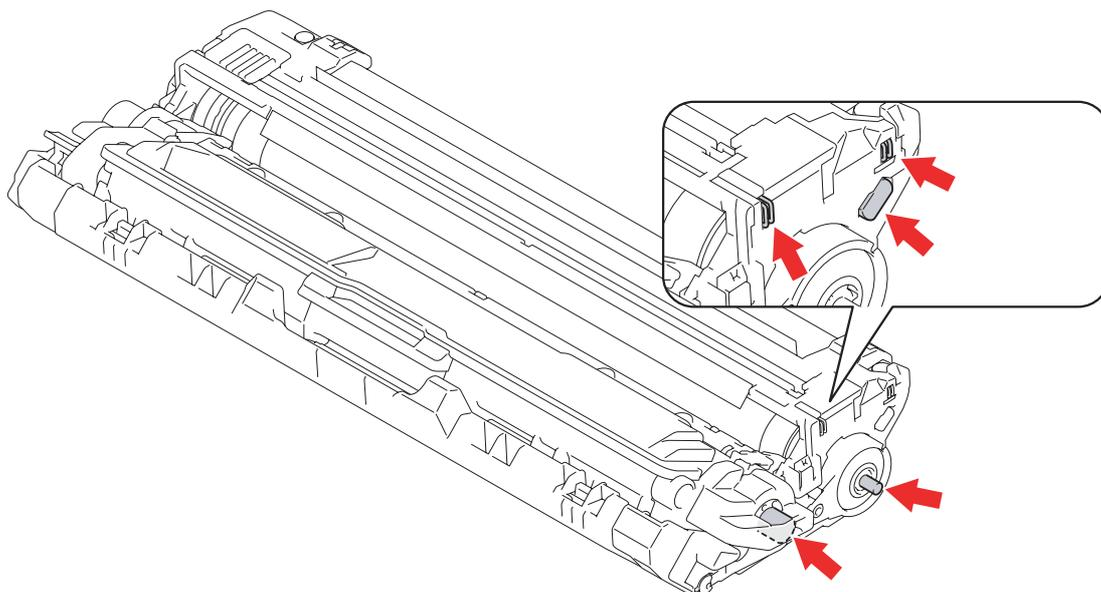

Fig. 2-8
- Clean the drum unit. (Refer to fig. 2-8 \(P2-51\))